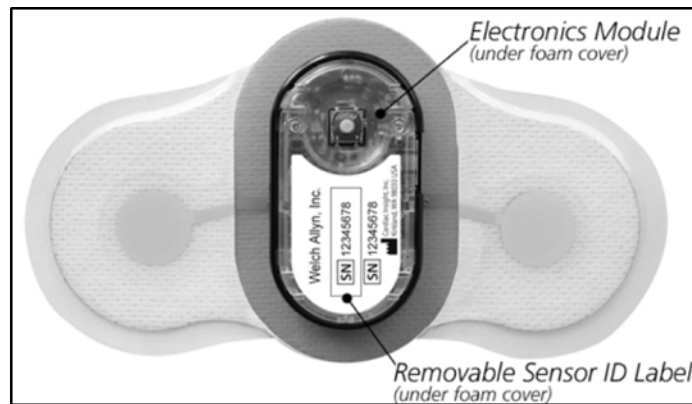

Figure 3.5. The exposed Electronics Module following removal of the foam cover.
1. On the top surface of the Electronics Module is the Sensor ID label (see Figure 3.5 below). Use this information to associate or to confirm association of the Electronics Module with the patient chart. Copy the Sensor ID number (if not already there) onto the Patient Diary if a diary has been filled out by the patient.